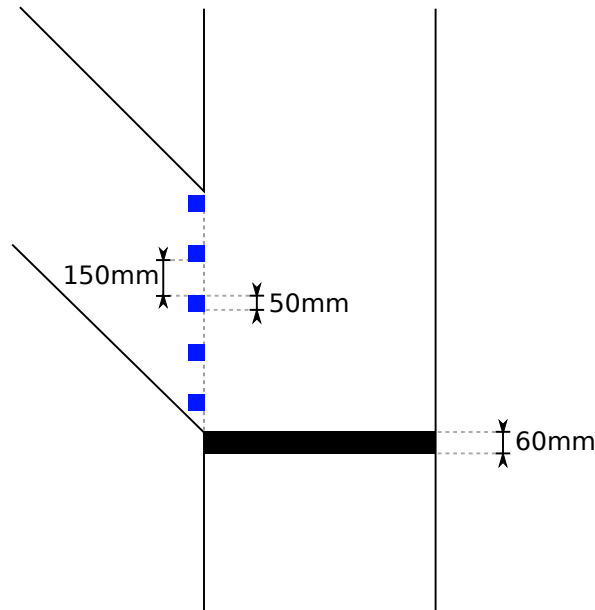

Figure 4: A bird's eye-view of the entrance to the ramp.
- 3.1.9 A black gaffer tape line is present across the corridor before the entrance to the ramp. Figure 4 shows the position and dimensions of this line, and the alignment of the blue squares in the ramp entrance.